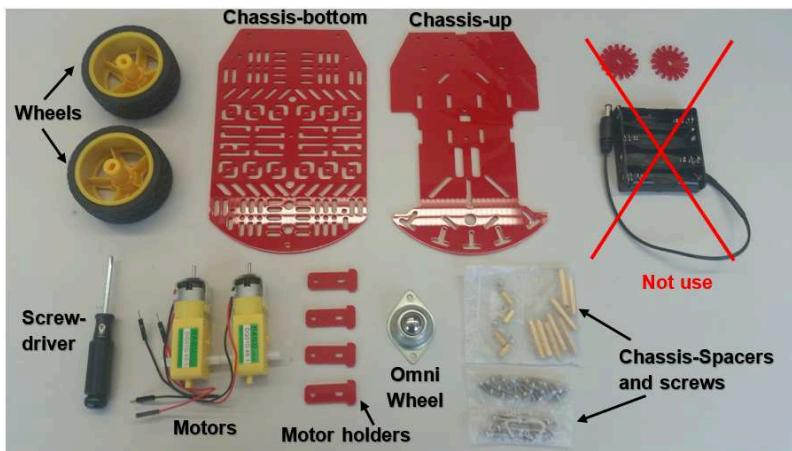

Figure 5.1. Components in Duckiebot package.
Open the Magician chassis package (Figure 5.1) and take out the following components:
**Note:** You won't need the battery holder and speed board holder (on the right side in Figure 5.1).